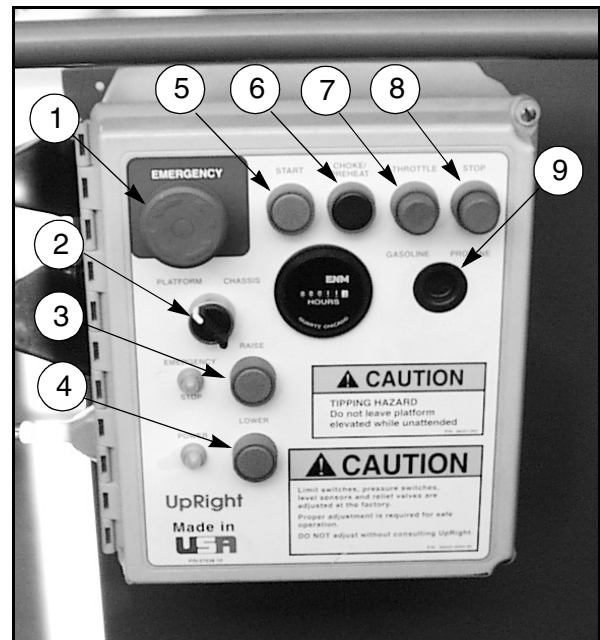

Figure 1: Chassis Controls
9. Place chassis and platform emergency stop switches in the ON position (Figures 1 & 2) by pulling the buttons out.